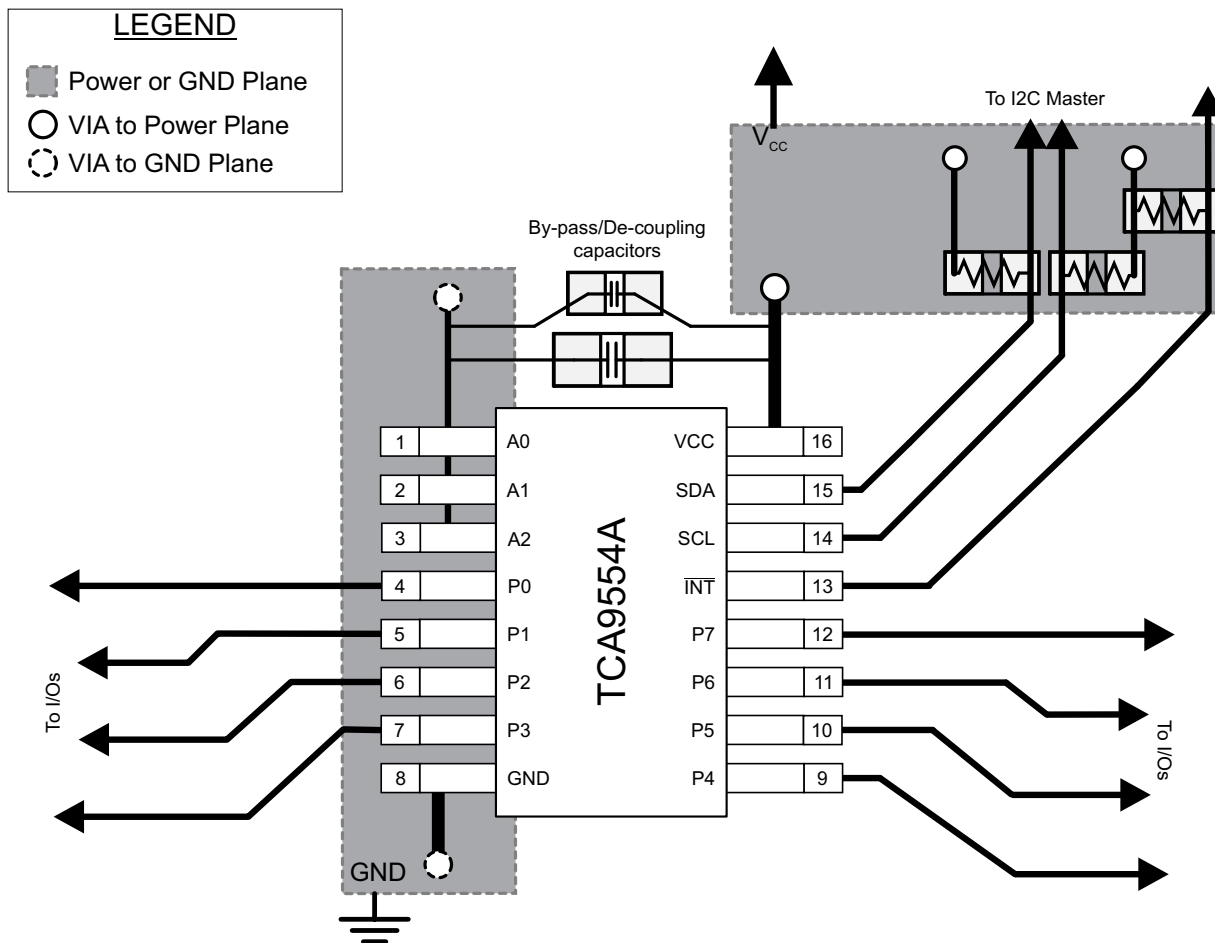

Figure 34. TCA9554A Layout
In all PCB layouts, it is a best practice to avoid right angles in signal traces, to fan out signal traces away from each other upon leaving the vicinity of an integrated circuit (IC), and to use thicker trace widths to carry higher amounts of current that commonly pass through power and ground traces. By-pass and de-coupling capacitors are commonly used to control the voltage on the VCC pin, using a larger capacitor to provide additional power in the event of a short power supply glitch and a smaller capacitor to filter out high-frequency ripple. These capacitors must be placed as close to the TCA9554A as possible. These best practices are shown in Figure 34.
For the layout example provided in Figure 34, it is possible to fabricate a PCB with only 2 layers by using the top layer for signal routing and the bottom layer as a split plane for power (VCC) and ground (GND). However, a 4 layer board is preferable for boards with higher density signal routing. On a 4 layer PCB, it is common to route signals on the top and bottom layer, dedicate one internal layer to a ground plane, and dedicate the other internal layer to a power plane. In a board layout using planes or split planes for power and ground, vias are placed directly next to the surface mount component pad which needs to attach to VCC or GND and the via is connected electrically to the internal layer or the other side of the board. Vias are also used when a signal trace needs to be routed to the opposite side of the board, but this technique is not demonstrated in Figure 34.